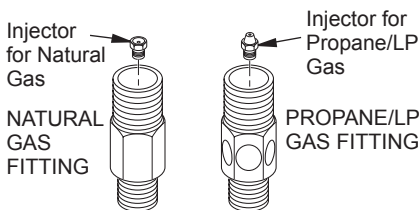

**Figure 7 - Removing/Installing Cover, Control Knob, and Piezo Ignitor**
2. Remove screws that attach pilot assembly to valve cover and valve cover to burner pan (see Figure 7).